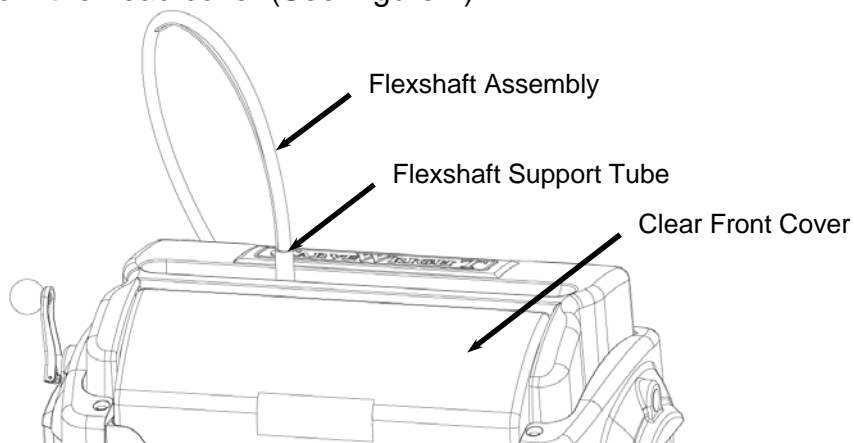

FIGURE 2: EXTERIOR VIEW OF THE FLEXSHAFT AND HEAD COVERS
2. **Ready the flexshaft for removal from the Z-truck.** Move the Z-truck to the very top of its travel (until it reaches the hard stop) so that the flexshaft support tube protrudes from the head cover (See Figure 2).